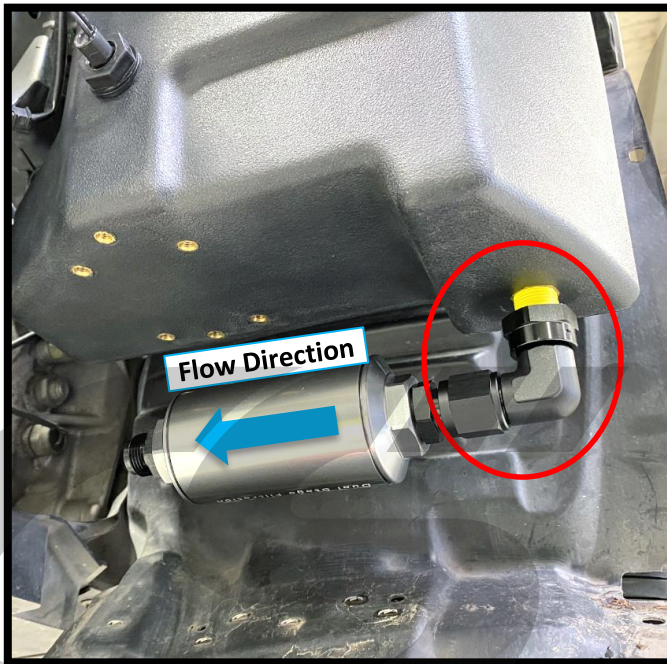

Figure 10c
- c) Install this fitting into the feed port of the CorkSport Aux Fuel Tank. Tighten it hand tight, plus 1-1.5 turns with a 1 1/16" or adjustable wrench. Shown completed with **red circle** in **Figure 10c**.
- d) Install the "DWFF110" filter onto the 11389 fitting as shown in **Figure 10c**. Ensure the flow direction of the filter matches what is shown in **Figure 10c**. Tighten the filter to the 11389 fitting until snug using a 1" or adjustable wrench.